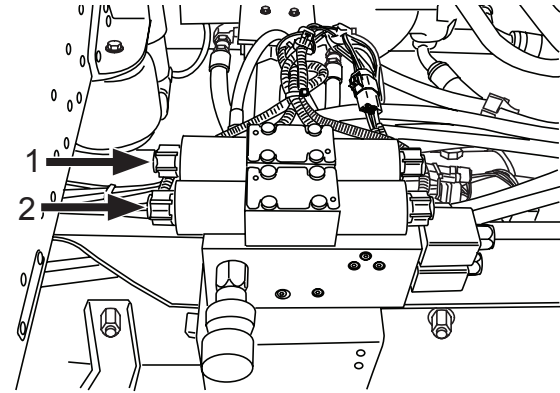

Figure 52
7. Manually shift the start/stop valve spool by pressing in on the end of the spool (Figure 52, Item 1).
8. Manually shift the raise/lower valve spool by pressing in on the end of the spool (Figure 52, Item 2).
11. Call Revolution Service at (855) 202-6491 if you have questions or need assistance.